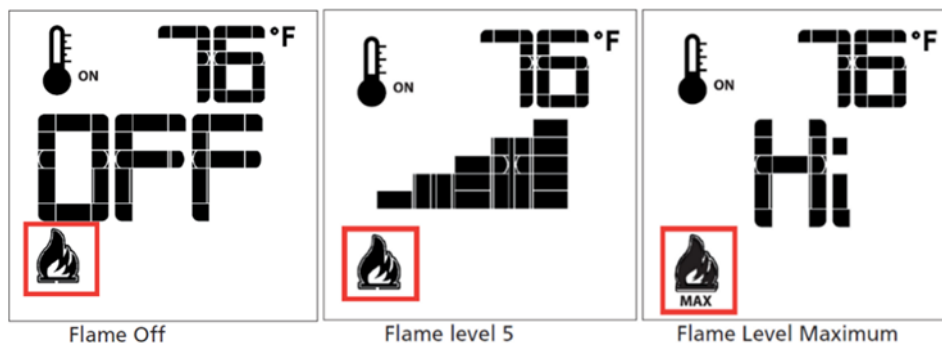

FIGURE 43
The system has six (6) flame levels. See (**Figure 43**) for an example. With the system on, and the flame level at the maximum in the appliance, pressing the Down Arrow Key once will reduce the flame height by one step until the flame is turned off. The Up-Arrow Key will increase the flame height each time it is pressed. If the Up Arrow Key is pressed while the system is on, but the flame is off, the flame will come on in the high position (**Figure 43**). A single “beep” will confirm reception of the command.